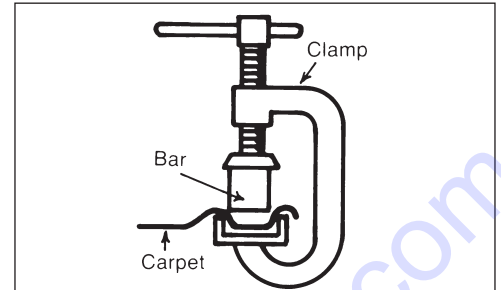

FIG. 8
2. Attach pull bar to loosened carpet. Make sure the carpet goes all the way through the channel bar, reaching out the other side (all 3 sides) (Figure 8).
3. Insert bar and tighten "C" clamps. Make sure channel bar fits flat into the channel of the clamping bar (Figure 8). Failure to do so could cause bar to disengage carpet prematurely.